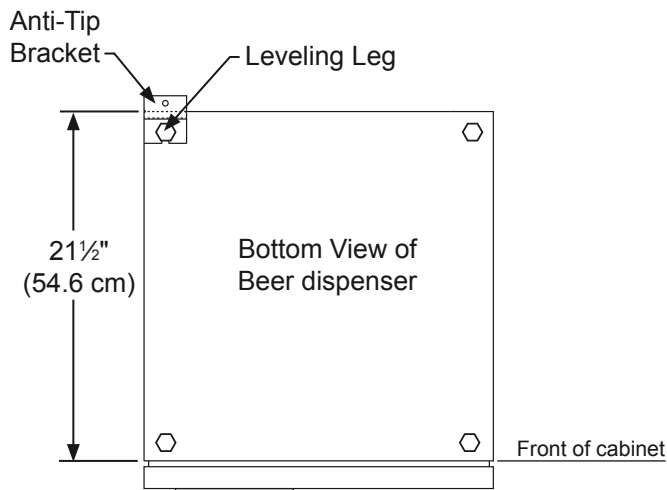

Figure 6
The anti-tip bracket is to be located on the floor in the left or right rear corner of the beer dispenser as shown in Figure 6.
- 3) Make sure the beer dispenser is in the desired location, then mark on the floor the rear and side corner of the cabinet where the anti-tip bracket will be installed. If the installation does not allow marking the rear corner of the cabinet, then make temporary lines on the floor marking the front corner of the cabinet, excluding the door. Slide the beer dispenser out of the way. From the temporary line extend the sidewall line back $21\frac{1}{2}$ " (54.6 cm) as shown in Figure 6.